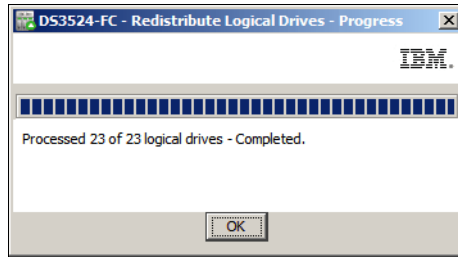

Figure 14-142 Redistribute Logical Drives - Progress
- The progress of the logical drive redistribution will be displayed. The window shown in Figure 14-142 on page 426 will be displayed when all the logical drives have been redistributed to their preferred owners.